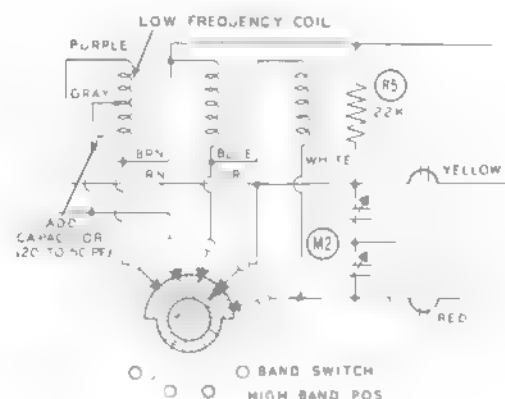

Figure 28
- () Refer to Figure 28 for the oscillator coil circuitry of the Heathkit Models TS-4, TS-4A, and IG-52 Television Alignment Generators.